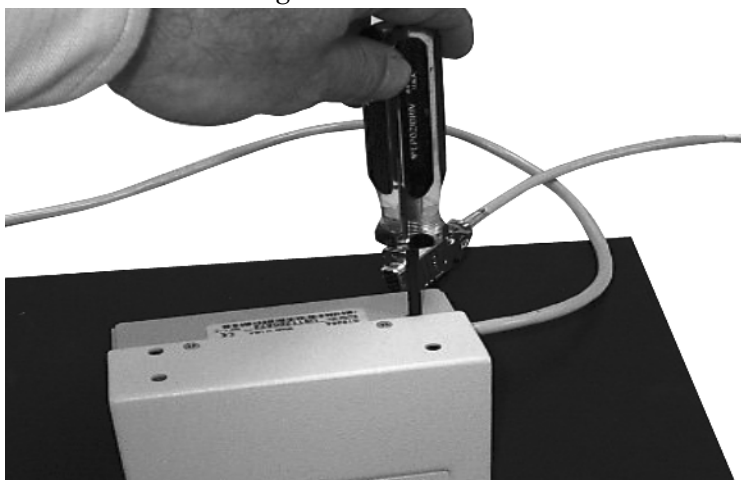

Figure 1. Bar code reader
1. Loosen the four (4) Pozidrive screws holding the two attaching fingers on the G1926A Bar Code Reader (BCR). These screws are concealed by the cover, but there are access holes over each screw position. See Figure 1.